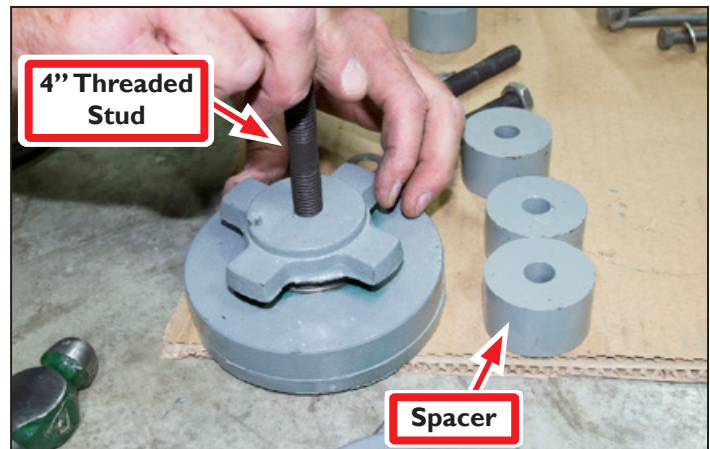

Figure 2.9
2. Screw one 4" Threaded Stud into each Lathe Foot (see **Figure 2.9**); slide a Spacer onto each stud.